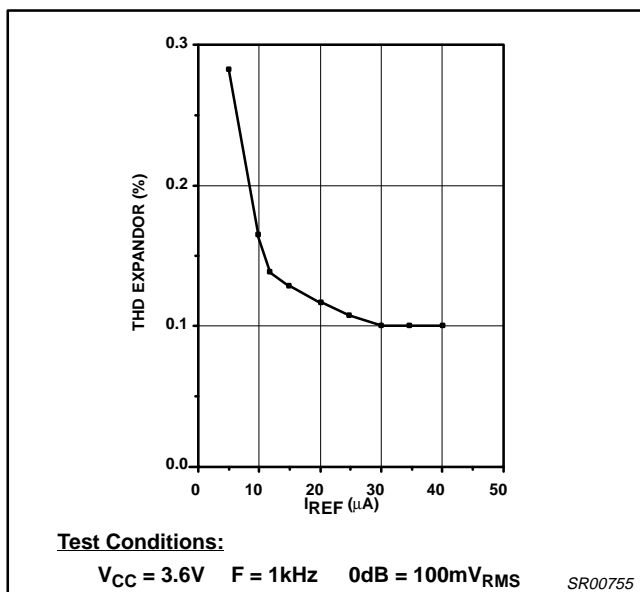
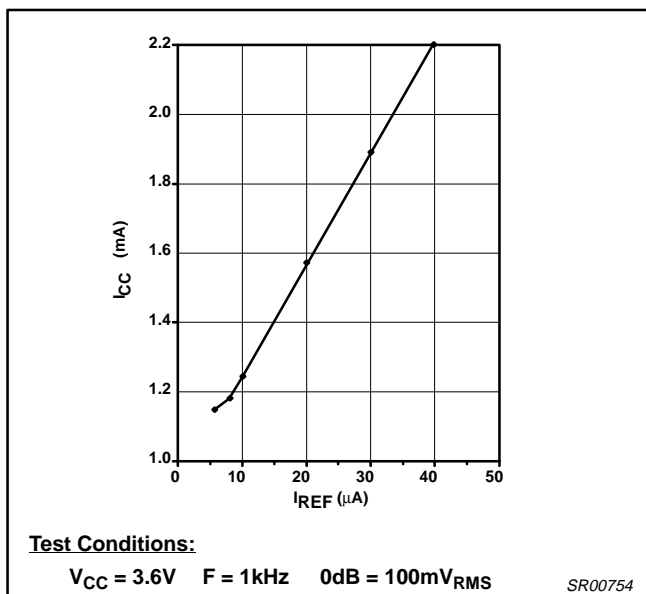

Figure 4 .  $I_{REF}$  vs THD, Expander Side
Figure 3 .  $I_{REF}$  vs  $I_{CC}$
The above example is a good place to start, but to get the optimum performance from the NE577 and NE578, a designer needs to understand certain key parameters.  $I_{REF}$  is important because it determines the values for all three resistors (R1, R2, and R3). Since  $I_{REF}$  is directly related to  $I_{CC}$  (see Figure 3), one should be careful in choosing a value. If one chooses a high  $I_{REF}$  current, power consumption goes up. However the output signal will have excellent low level distortion (see Figures 4 and 5). If one chooses a low  $I_{REF}$  value, distortion at the output will increase slightly. Conversely, the power consumption is reduced, which might be worth the trade-off in battery operated designs.
The bandgap voltage ( $V_{BG}$ ) slightly varies over a wide range of  $I_{REF}$  currents (Figure 6). Figure 7 shows how  $I_{REF}$  varies with  $R2$ . The higher  $R2$  is, the lower  $I_{REF}$  is. Figure 8 shows how the dynamic range varies over different values of  $I_{REF}$  (the higher the supply voltage the better the dynamic range). The graphs in Figures 3 - 8 were taken at  $V_{CC}=3.6V$ ,  $F=1kHz$  and  $0dB$  level= $100mV_{RMS}$ . The  $I_{REF}$  current was limited between  $5\mu A$  and  $40\mu A$ .
Making use of the graphs in Figures 3 - 8 and formulas 1 and 2, design a compandor with a  $0dB$  level of  $100mV_{RMS}$ . Try to achieve a THD of 0.1 on the compressor side with wide dynamic range. Operate at a supply voltage of 3.6V but with the lowest possible current consumption.
Step 3: Figure 3 shows us that  $I_{CC}$  is at 1.9mA with no input signal (that's not bad at all!).